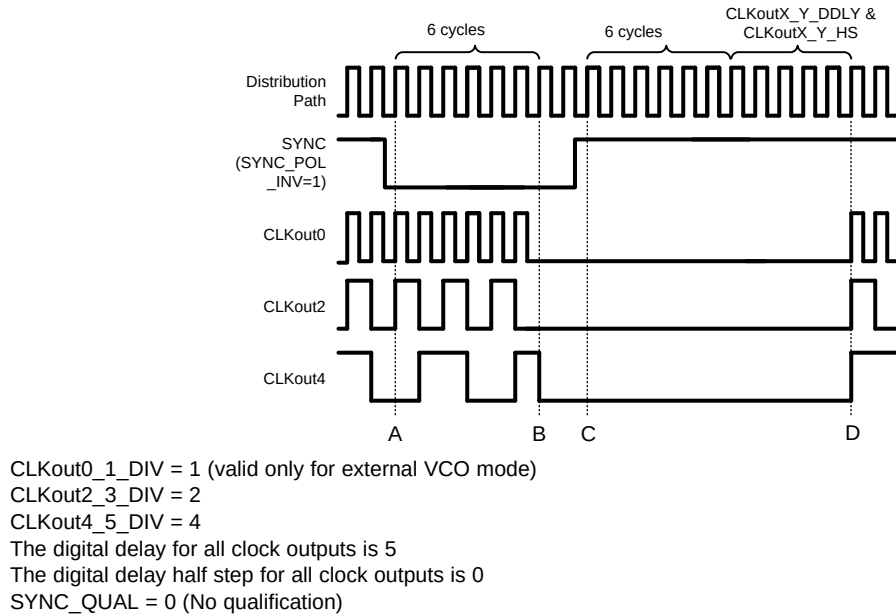
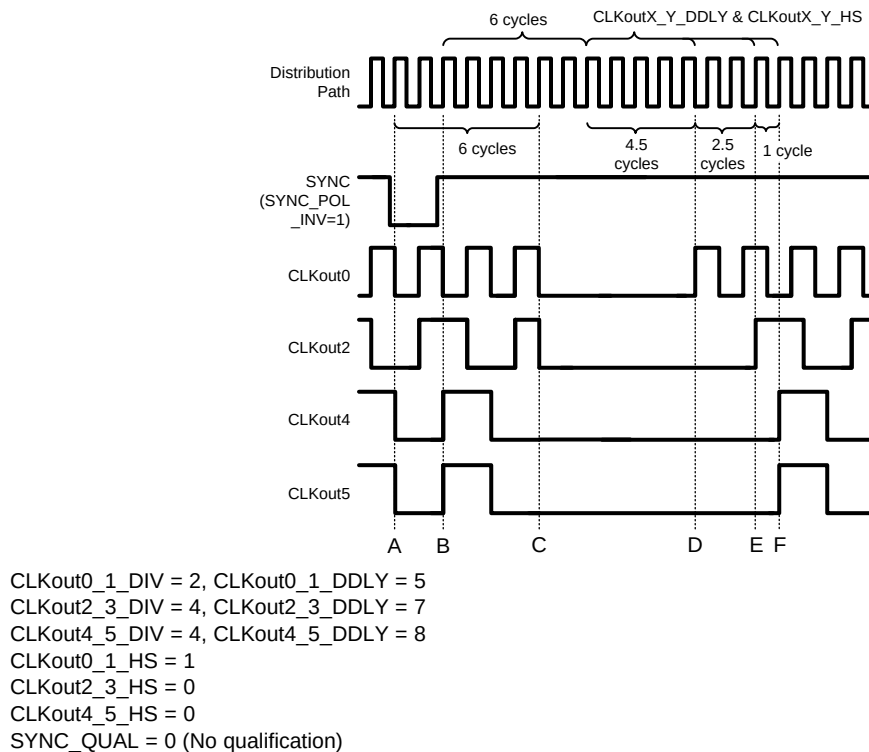

Figure 13. Clock Output Synchronization Using the SYNC Pin (Active Low)
Figure 14. Clock Output Synchronization Using the SYNC Pin (Active Low)
Figure 14 shows clock outputs programmed with different digital delay values during a SYNC event.
Refer to Figure 13 during this discussion on the timing of SYNC. SYNC must be asserted for greater than one clock cycle of the clock distribution path to latch the SYNC event. After SYNC is asserted, the SYNC event is latched on the rising edge of the distribution path clock, at time A. After this event has been latched, the outputs do not reflect the low state for 6 cycles, at time B. Due to the asynchronous nature of SYNC with respect to the output clocks, it is possible that a glitch pulse could be created when the clock output goes low from the SYNC event. This is shown by CLKout4 in Figure 13 and CLKout2 in Figure 14. See Relative Dynamic Digital Delay for more information on synchronizing relative to an output clock to eliminate or minimize this glitch pulse.
Figure 14 shows the timing with different digital delays programmed.
- For example see CLKout4 in Figure 13 and CLKout2 in Figure 14.
Step 1: The device is programmed from register R0 to R30 with values that result in the device being locked and operating as desired, see the system requirements above. The phase of all the output clocks are aligned because all the digital delay and half step values were the same when the SYNC was generated by programming register R30. The timing of this is as shown in Figure 13.